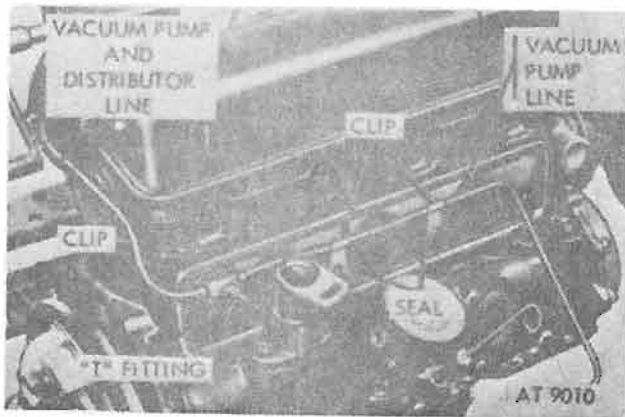

Figure 4-66. Vacuum pump line (applicable to M151, M151A1, M151A1C and M718 vehicles only).
h. Vacuum Pump Line. Remove two panhead screws securing vacuum pump line to push rod cover. Disconnect line from connector at intake manifold, and retaining clip at rear engine lifting eye. Remove vacuum pump line with the two retaining clips and tappet cover seal assemblies. Discard seal assemblies. (Applicable to M151, M151A1, M151A1C, and M718 vehicles only.) Refer to figure 4-66.